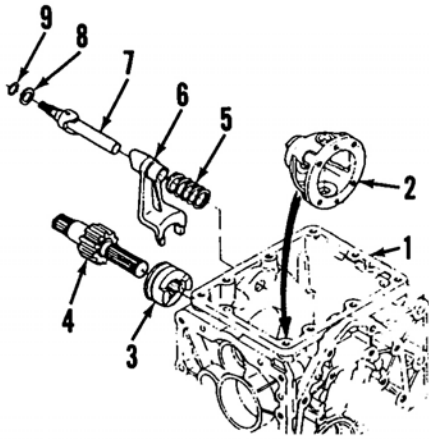

Fig. 83—Exploded view of differential lock assembly typical of the type used on all models.
Inspect all components for excessive wear and damage. Make sure engagement teeth on cam (3—Fig. 83) and differential case (2) engage properly and are not chipped, cracked or damaged in any other way. Measure free length of differential lock spring (5), reference value is 40 mm (1.5748 inches). Renew all parts as needed.